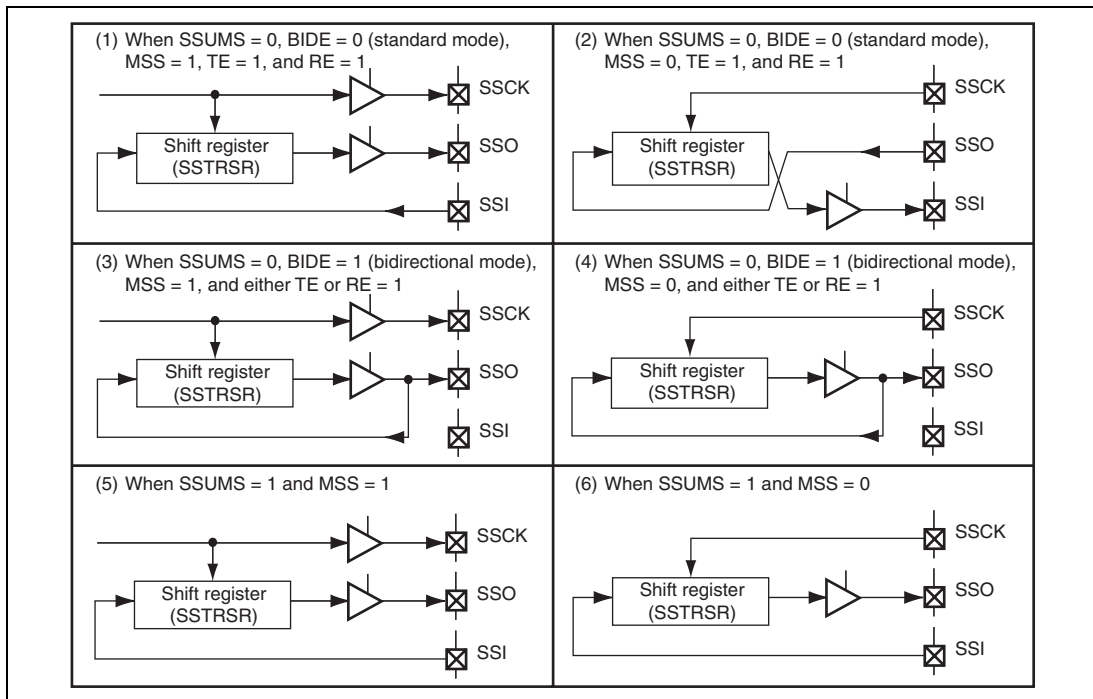

Figure 17.3 Relationship between Data Input/Output Pins and the Shift Register
The connection between data input/output pins and the SS shift register (SSTRSR) depends on the combination of the MSS and BIDE bits in SSCRH and the SSUMS bit in SSCRL. Figure 17.3 shows the relationship.
The SSU transmits serial data from the SSO pin and receives serial data from the SSI pin when operating with BIDE = 0 and MSS = 1 (standard, master mode) (see figure 17.3 (1)). The SSU transmits serial data from the SSI pin and receives serial data from the SSO pin when operating with BIDE = 0 and MSS = 0 (standard, slave mode) (see figure 17.3 (2)).
The SSU transmits and receives serial data from the SSO pin regardless of master or slave mode when operating with BIDE = 1 (bidirectional mode) (see figures 17.3 (3) and (4)).
The SSU transmits serial data from the SSO pin and receives serial data from the SSI pin when operating with SSUMS = 1. The SSCK pin outputs the internal clock when MSS = 1 and function as an input pin when MSS = 0 (see figures 17.3 (5) and (6)).